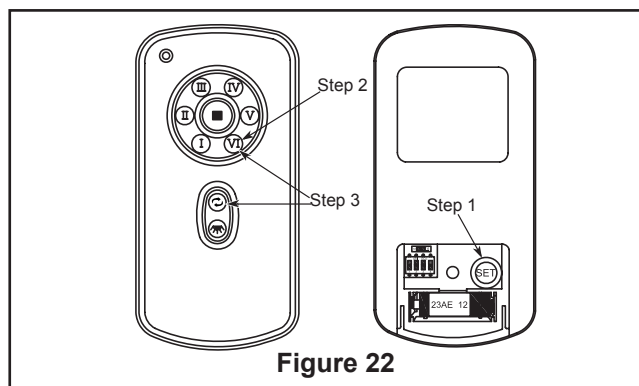

Figure 22
Step 2: Speed Setting: After step 1 is complete, press/release the high speed (VI) button and allow fan to run for 120 seconds. This will configure the speeds within the motor electronics.
Step 3: Performing Speed Settings for the reverse speeds: Press/release the reverse button on the remote control. Once fan has reversed, press/release the high speed (VI) button and allow the fan to run for 120 seconds. (Figure 22). Now the fan is ready for normal use.